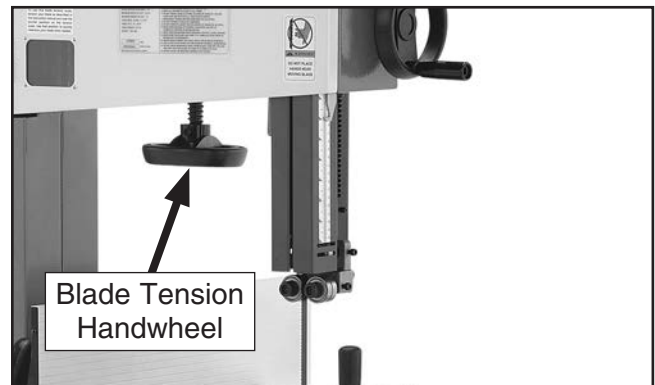

Figure 44. Blade tension handwheel.
6. Using the blade tension handwheel (**Figure 44**), slowly decrease blade tension until the blade starts to flutter.